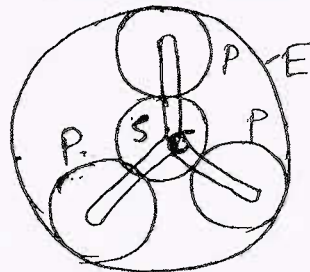

Fig. Q8
- 8 An epicyclic gear train as shown in Fig. Q8 consists of a sunwheel(S), a stationary internal gear (E) and three identical planet wheels (P) carried on a star shaped planet carrier(C). The size of different toothed wheels are such that the planet carrier C rotates at $\left(\frac{1}{5}\right)$ of the speed of the sun wheel. The minimum number of teeth on any wheel is 16. The driving torque on the sun wheel is 100 Nm. Determine: